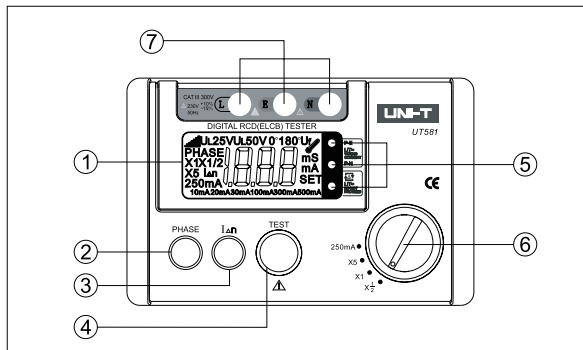

Figure 1
4. Tester Description (See Figure 1, 2)